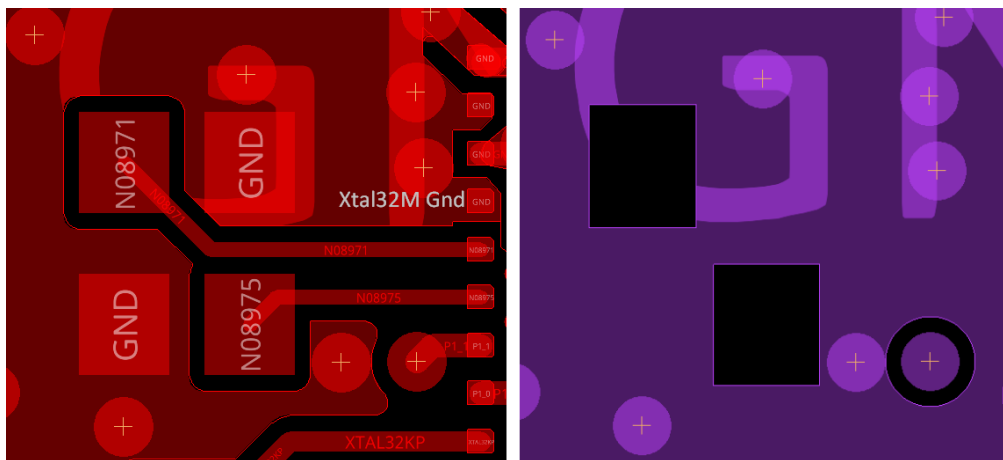

Figure 21. XTAL32M PCB design: top layer (L) and first inner layer (R)
- Remove GND area under the XTAL "hot" pads to minimize the capacitive load to the XTAL32M oscillator. See Figure 21.
- If possible, try to create a ground shield around the crystals, and connect it to the XTAL32M GND pin (#4). The XTAL32M ground pads are also connected to the XTAL32M GND pin (#4). See Figure 21.